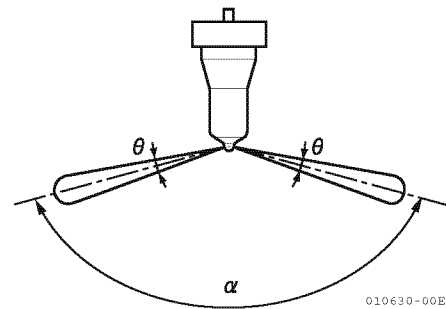

Figure 6-84
6. Pump the operating lever more rapidly to repeatedly pop the injector and observe the spray pattern. The pattern should be a very fine uniform spray (**Figure 6-84**). If dripping or an uneven pattern is seen (**Figure 6-85**), service or replace the injector.